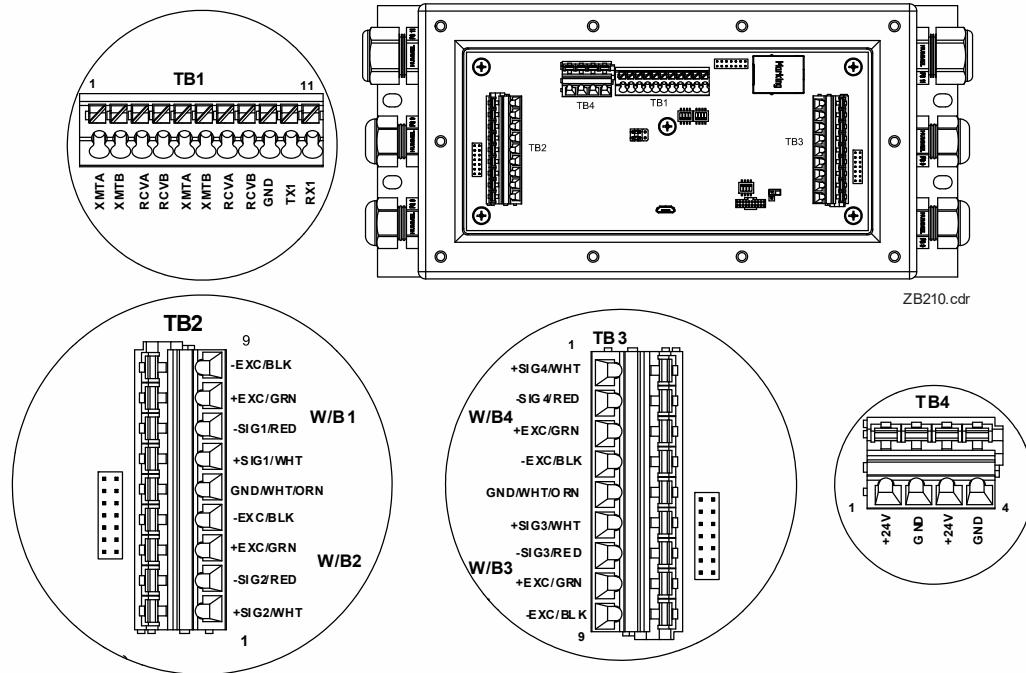

Figure 2.6 ZB210-LG and -SG junction box connections for 1st box in a chain of boxes
3. Connect the indicator interface cable to TB4 and TB1 in the ZB210 box and one of the indicator Comm Ports via the RS232 to RS485 board, per the chart below. Signal assignments are labeled on the PC boards, shown in Figure 2.6 and repeated below.